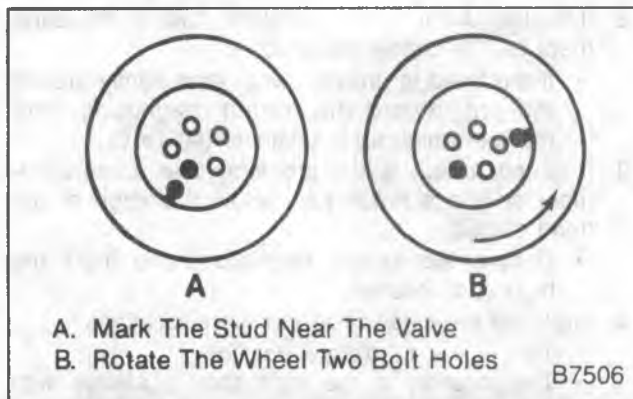

Figure 7—Tire and Wheel Assembly to Hub/Rotor Vectoring
1. Mark the wheel hub bolt nearest the valve stem for reference (figure 7).
2. Rotate the assembly two wheel hub bolts and recheck the runout (figure 7).